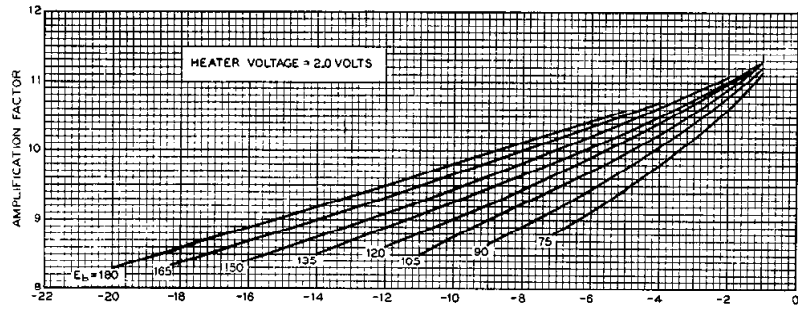

FIG. 4
**Characteristics**—Plate current characteristics of a typical 244A tube are shown in Figure 3 as functions of grid bias for several values of plate voltage. Corresponding amplification factor, plate resistance, and transconductance characteristics are given in Figures 4, 5, and 6, respectively. Plate current characteristics are shown as functions of plate voltage for several values of grid bias in Figure 7.